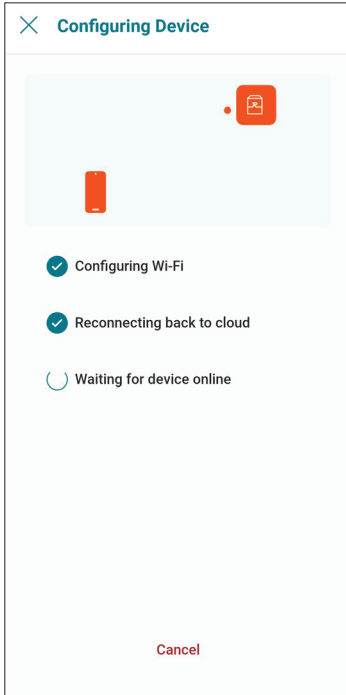

Figure 118. Configuring Device
9. Raymote app will provide the Wi-Fi credentials to your unit. This process may take a few seconds. See **Figure 118**.